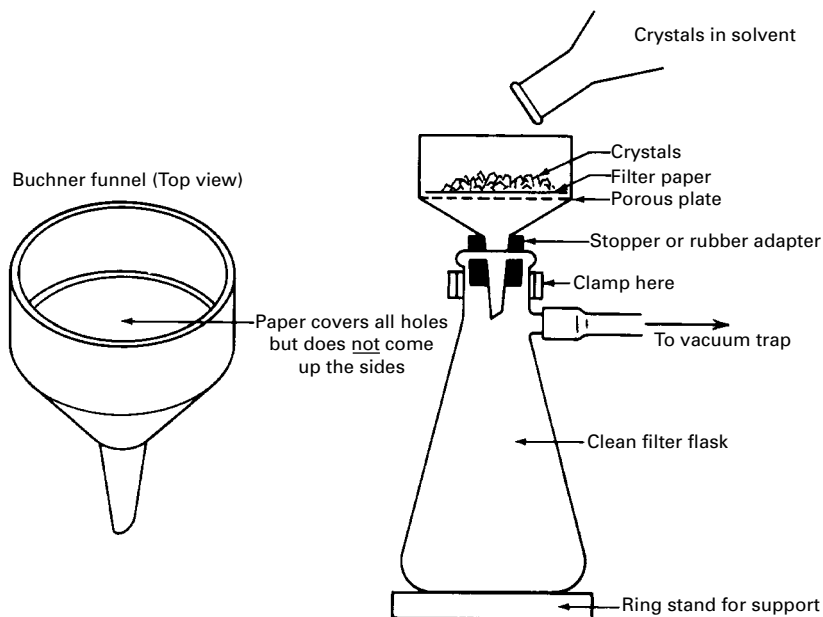

FIGURE 13.5 The Buchner funnel at home and at work.
The **Buchner funnel** (Fig. 13.5) is used primarily for separating crystals of product from the liquid above them. If you have been *boiling your recrystallization solvents dry*, you *should be horsewhipped* and forced to reread these sections on recrystallization!
1. Get a piece of filter paper large enough to cover all of the holes in the bottom plate, and yet *not* curl up the sides of the funnel. It is placed *flat* on the plate (Fig. 13.5).
9. When the crystals are dry *and you have a water trap*, just turn off the water aspirator. Water won't back up into your flask. (If you've been foolhardy and have filtered without a water trap, just remove the rubber tube connected to the filter flask side arm [Fig. 13.5].)